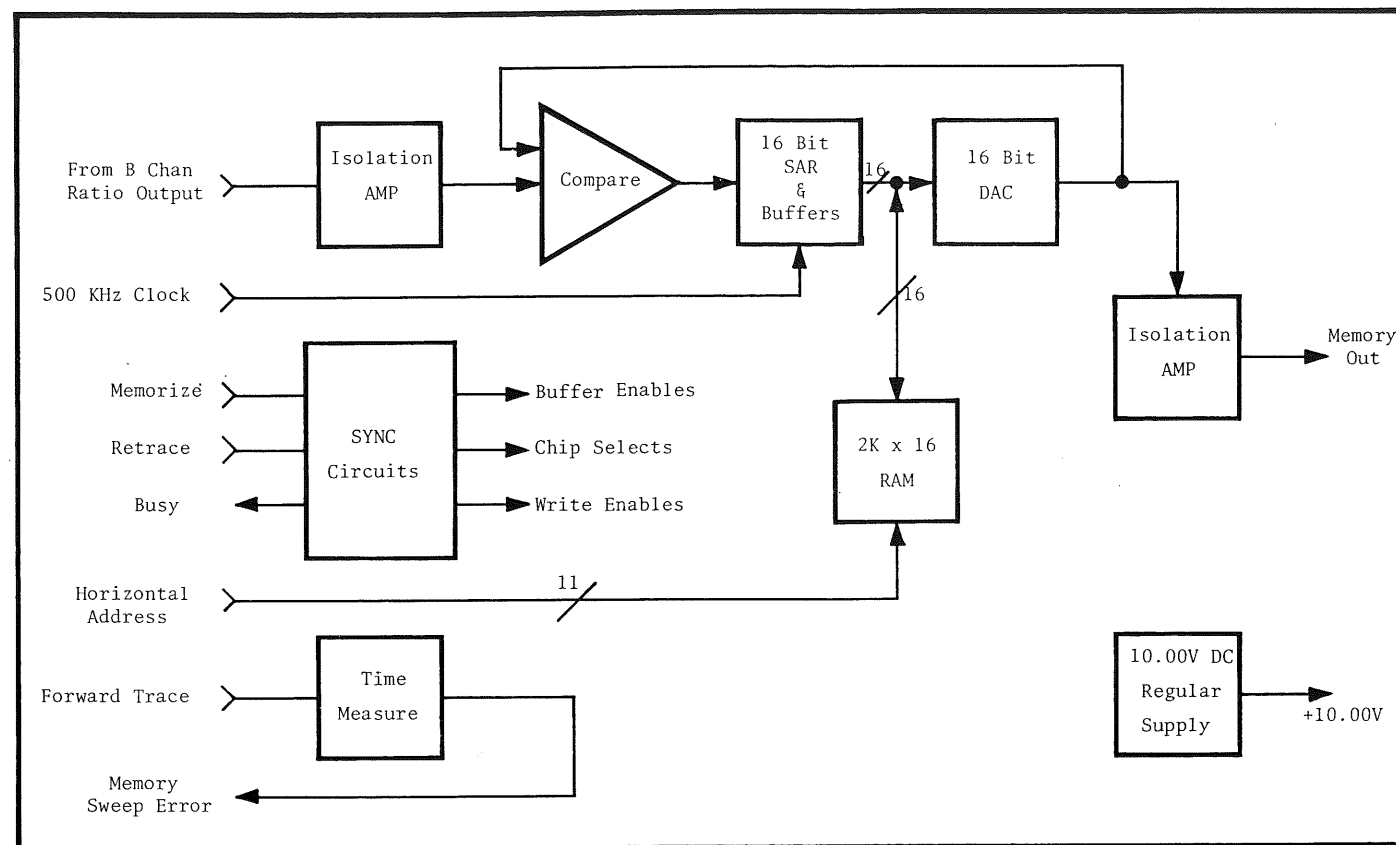

Figure 5-8 B Channel Memory (Bd # A7 - SD 14888)
The operations performed by the B Channel Memory board (Assy. #14887) can be divided into five different functions. Included in these are: (1) Memory Control, (2) A to D Conversion, (3) Random Access Memory (RAM), (4) Reference Voltage Supply and, (5) Sweeping Too Fast signal initiation. (Use Figure 5-8 — Block Diagram — and SD 14888 as aids to better understand the following discussion.)